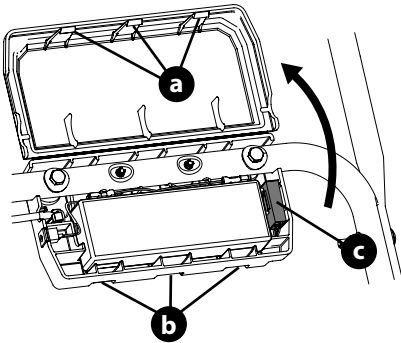

Figure 16
1. Release the three locking tabs (a) from the slots (b) and open the battery box (Figure 16).